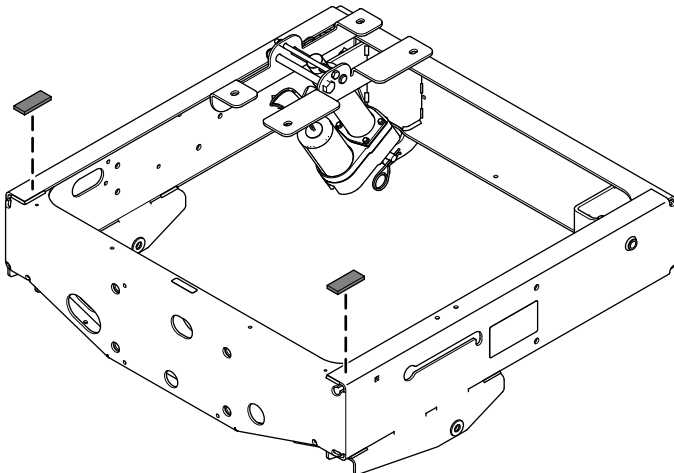

Figure 15
2. Remove the backing from the foam pads and adhere them as shown in Figure 15.